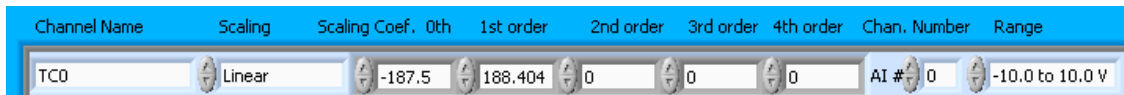

Figure 3: Example Channel Specifications in the NI\_A2D Config Editor Window
Figure 3: Example Channel Specifications in the NI-A2D Config Editor Window	8
**Scaling Coefficients:** The columns marked 0th through 4th Order in the channels table indicate the coefficients to be used in the conversion equation. Figure 3 shows the setup for a hypothetical channel with a linear conversion equation, as follows:1